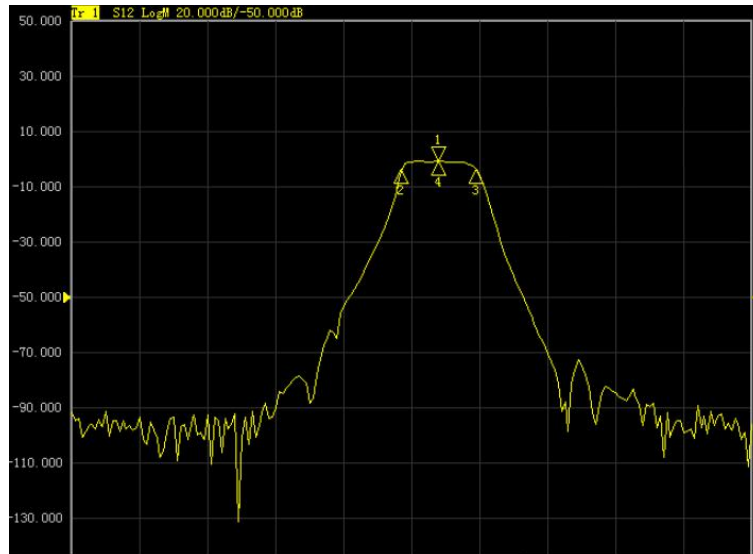

Fig. 3.41 Bandwidth Search
- **Bandwidth:** if the bandwidth searching function is selected, set the level (default: -3dB) below the peak in the level box and measure the bandwidth at the set level, as shown in Fig. 3.41. Use marker 1-4 for measurement. marker 1 is used to search the maximum peak value, marker 2 to search the point of specified level on the left side of the peak, marker 3 to search the point of specified level on the right side of the peak, and marker 4 to search the center of the bandwidth. The following information will be displayed after measurement.